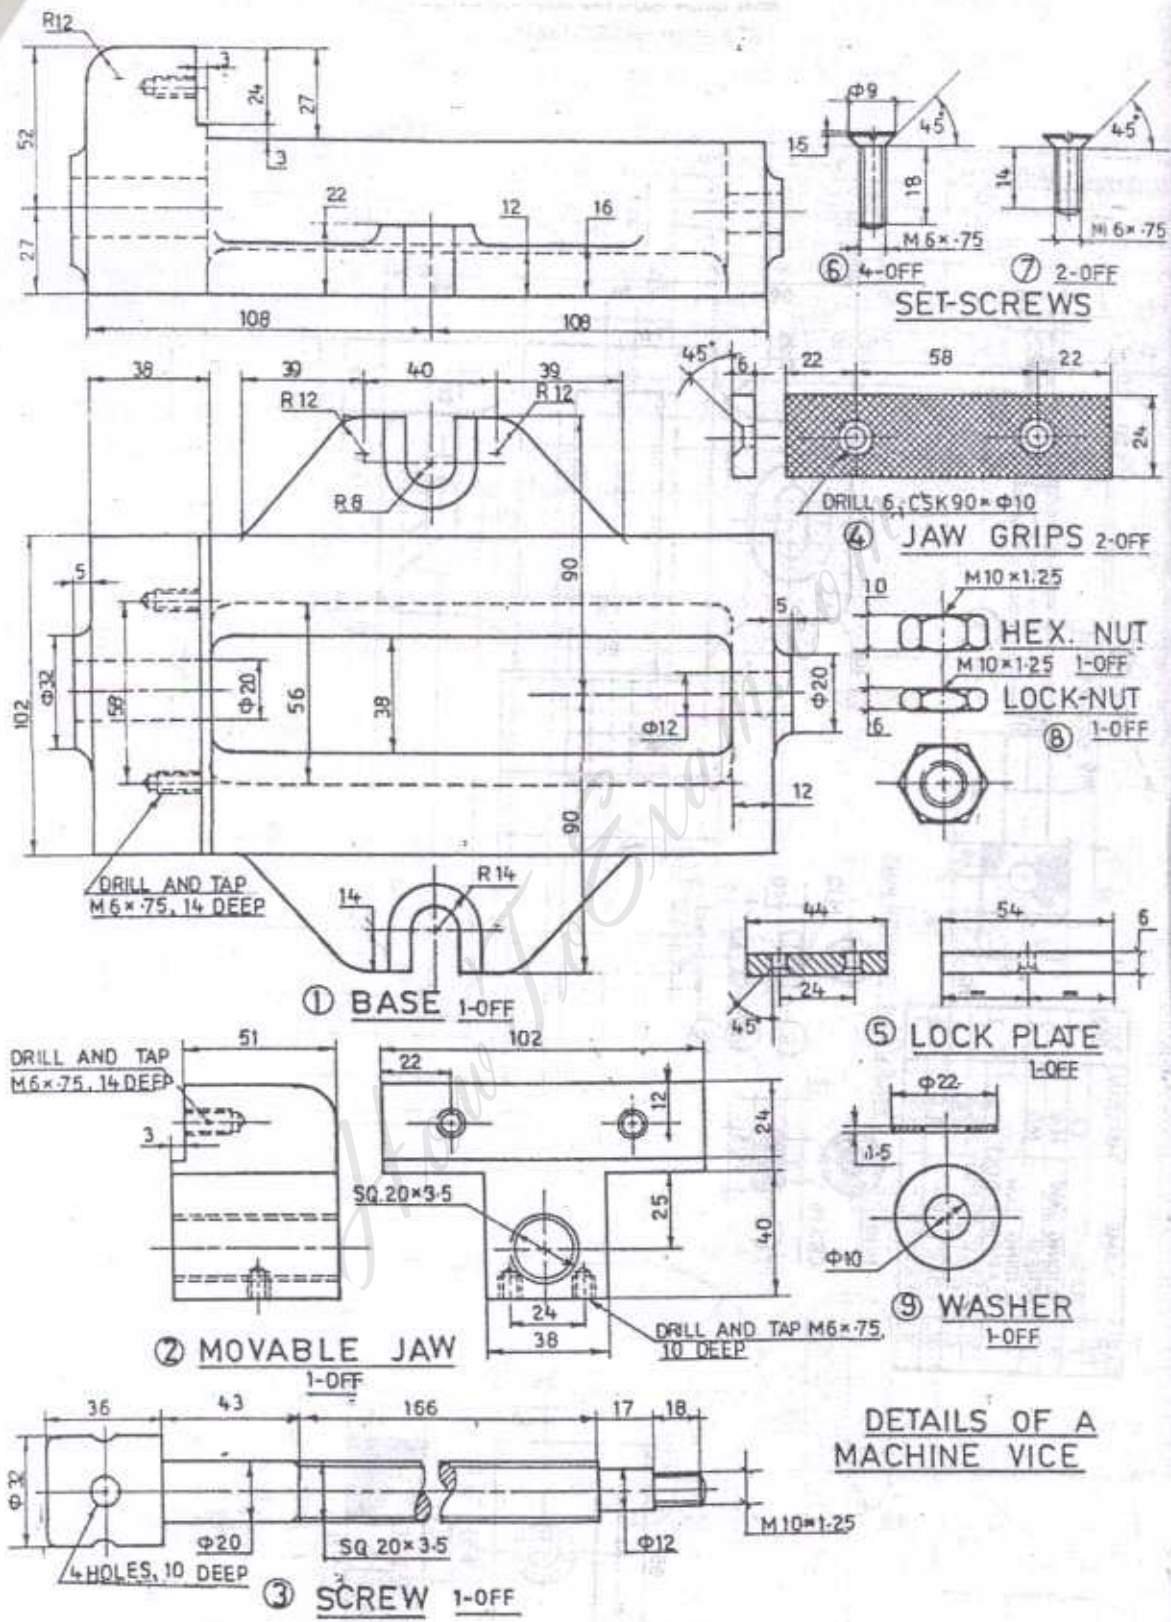

Figure 3
3. Figure 3 shows the details of a machine vice. Assemble the parts and draw the following views of the assembly. (34)